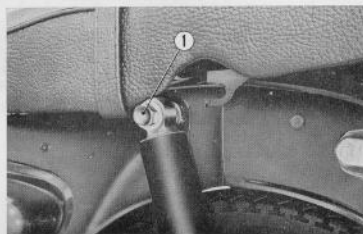

Fig. 4.52 Loosen upper rear cushion cap nuts
1. Loosen the upper rear cushion mounting cap nuts ① from the right and left side. (Fig. 4.52)